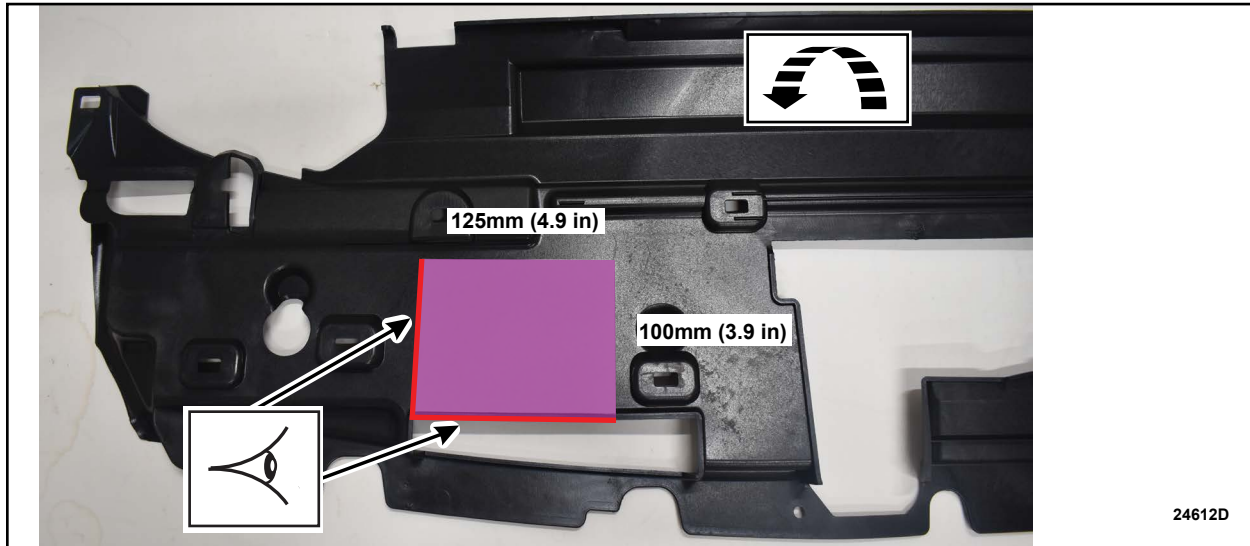

FIGURE 4
5. Turn the shield over to the **back side**. See Figure 4.
6. Use the left and bottom sides of the template to line up with the edge of the vent hole. See Figure 4.